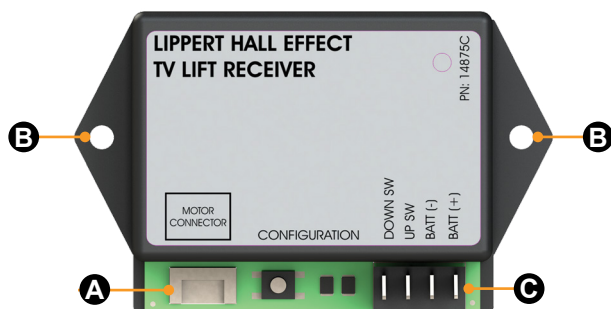

Fig.2
3. Mount TV lift controller (Fig.2) close to end of motor wire harness (Fig.1C) using two #10 screws in the pre-drilled locations (Fig.2B).